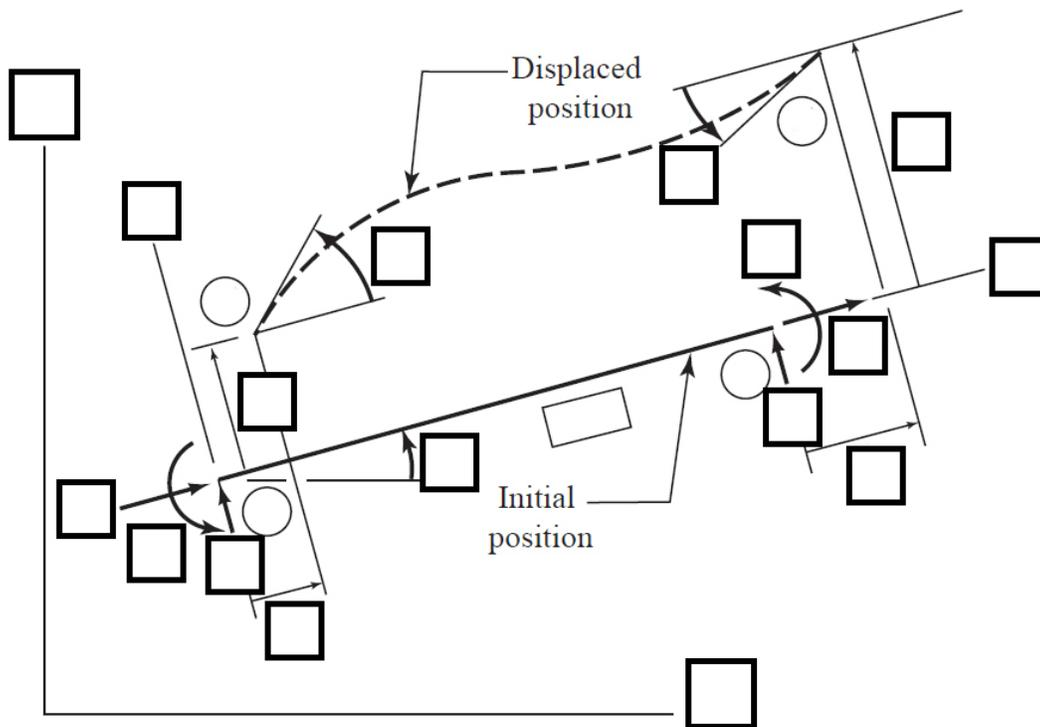

Figure 18. Member ____ in _____.
- c. Figures 18 and 19 illustrate an arbitrarily displaced member m in the local and global coordinates, respectively.
5) By comparing Figures 18 and 19, the **member end forces** for each coordinate system can be related.